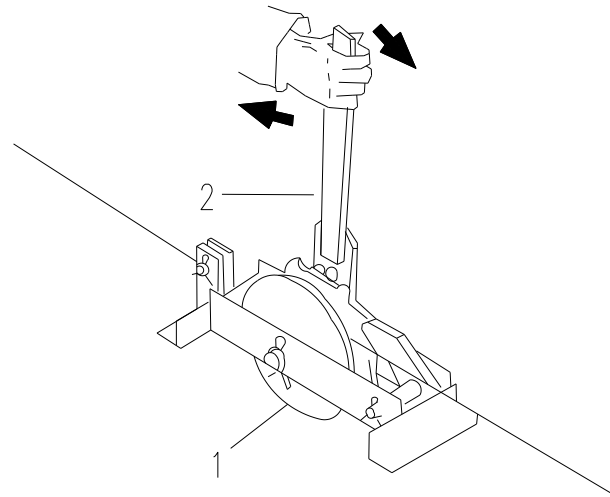

图 4-26 张紧小车钢丝绳 Fig. 4-26 The tensioning of the trolley ropes
张紧钢丝绳，移动小车卷筒后臂根上的两个小车。用小车上的扳手(2)启动钢丝绳张紧轮(1)，并尽量拉紧前小车钢丝绳。(见图 4-26)
Tensioning the ropes. Move the trolley on the jib foot in the rear of the trolley winch. Using the lever (2) stored on the trolley, operate the rope tensioning drum (1) and tighten the front trolley rope to a maximum (see Fig.4-26).